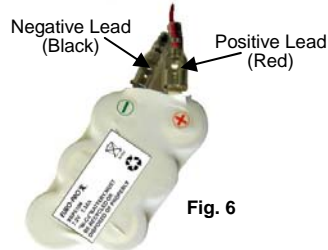

Fig. 6
4. Carefully lift out battery pack and disconnect the terminals. (Fig. 6)